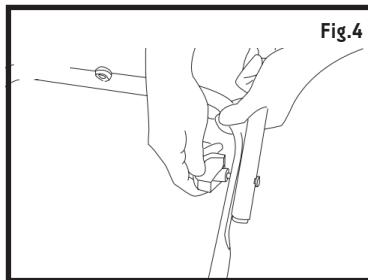

Fig.4
- Secure the connection of the middle frame to the upper frame by fastening the second set of joint fixing T-bolts and knobs on each side (Fig. 4).